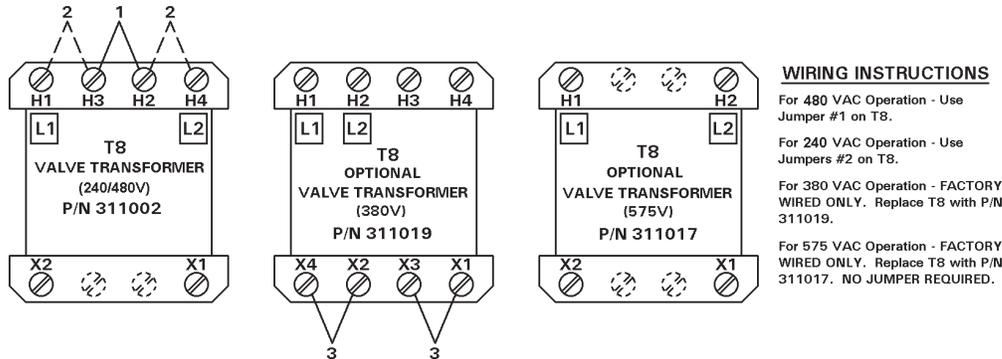

Figure 4-3. Valve Transformer jumpers settings
3. **Valve Transformer:** Jumpers on the valve transformer T8-H1, T8-H3, T8-H2, and T8-H4 must be configured to match the line voltage (see Figure 4-3). The standard Valve Transformer included with the EN1000/EN1001 (either 50 VA or 150 VA) is configured for 240 VAC or 480 VAC input; for 380 or 575 VAC operation, consult the factory.